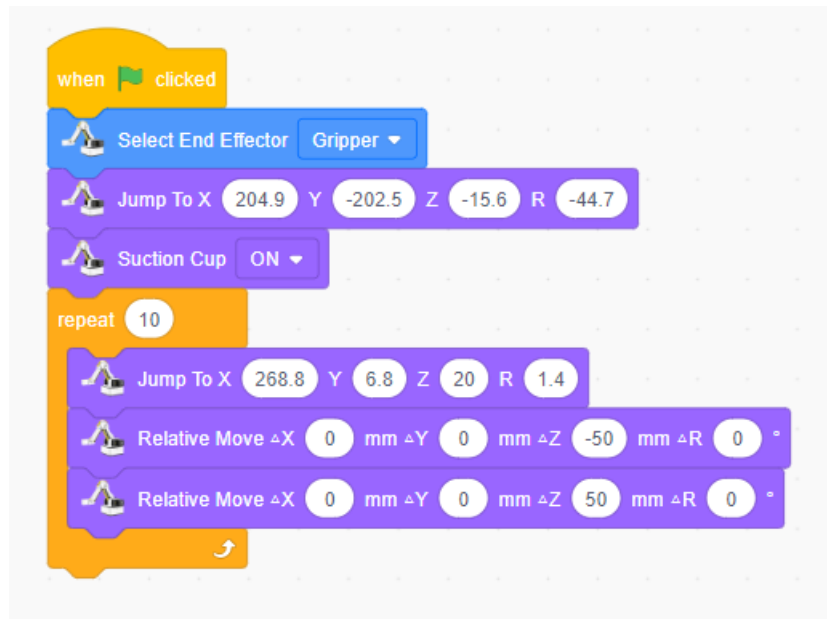

Figure 1.20 10-time stamping program
Step 5: Integrate the stamping process for 10 times, as shown in Figure 1.20.